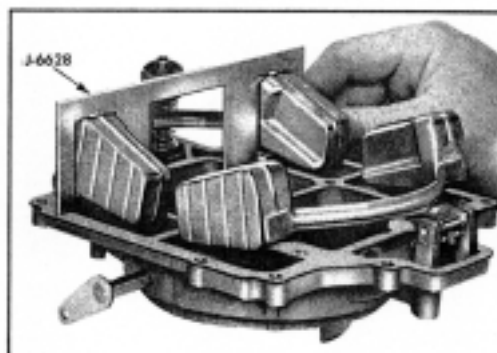
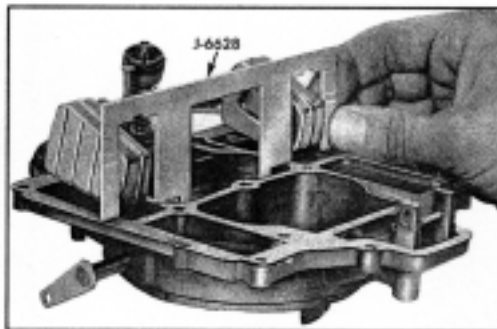

Fig. 6 Checking Float Level
Fig. 7 Checking Float Toe Clearance
- (1) With air horn gasket in place and air horn inverted, position float level gauge J-6628 over floats as shown in Fig. 6 so that gauge is located against the curvature in base of carburetor air horn.
- (2) Bend float arms vertically at center so floats just contact gauge. The vertical height is $1\text{-}3/8" \pm 1/32"$.
- (3) If necessary bend float arms horizontally until each float poston is centered between gauge legs.
- (4) Repeat same adjustment on opposite float assembly.
- (5) With air horn inverted, lower edge of toe of float should be flush to $+1/16"$ from gasket surface. With gauge in position shown in Fig. 7, the two scribe marks on the gauge show required height of float toe necessary to ensure this clearance. If adjustment is necessary, hold float